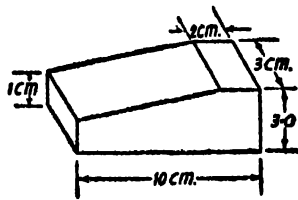

Fig. 5.27
3. Fig. 5.27 shows a wedge forged from M.S. bar of 4 cm. diameter. Estimate, what length of bar shall be needed, if the volume of the metal remains unchanged.